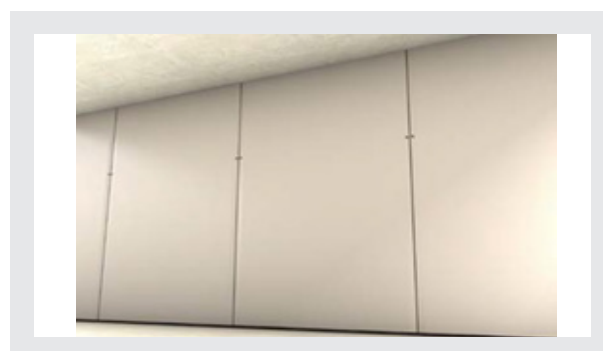

Figure 8
- Appropriate mechanical fixings are recommended to complement the adhesive bond. Apply 2 per board (6 fixings for FC lined Kooltherm K17Plus) after the adhesive has set, positioned 15 mm in from the board edge and at mid height (Figure 8) with a nominal 25 mm embedment into the wall. (Refer to fixing manufacturer instructions for more information);